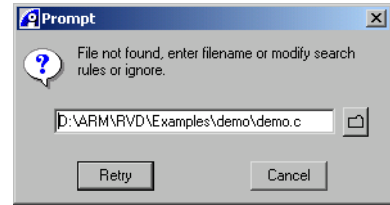

Figure 4-4 Source search prompt
4. RealView Debugger cannot locate a source file and so displays the source search prompt, shown in Figure 4-4 on page 4-18.
Use the source search prompt, shown in Figure 4-4, to autoconfigure the search rules:
When you use the directory button to locate the source file, using the prompt shown in Figure 4-4 on page 4-18, RealView Debugger creates a mapping between the original file and the new location. This mapping is then applied to subsequent file searches so that the debugger can locate files automatically that have the same mapping.